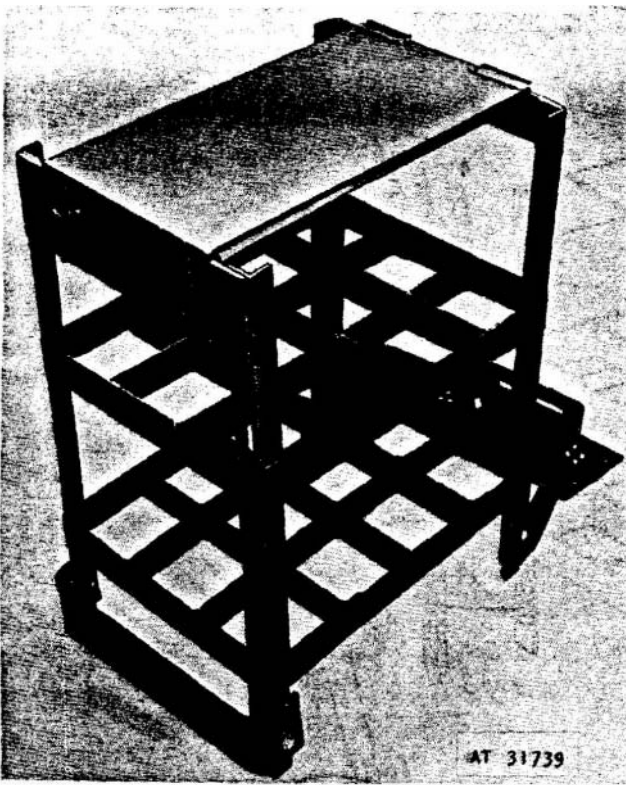

Figure 3-15. Ammunition rack assembly, mortar kit. 4.2 inch.
b. Ammunition Rack Assembly. The kit is provided with two ammunition rack assemblies, each capable of storing 12 rounds of ammunition for the mortar, 4.2 inch (fig 3-15). The rack